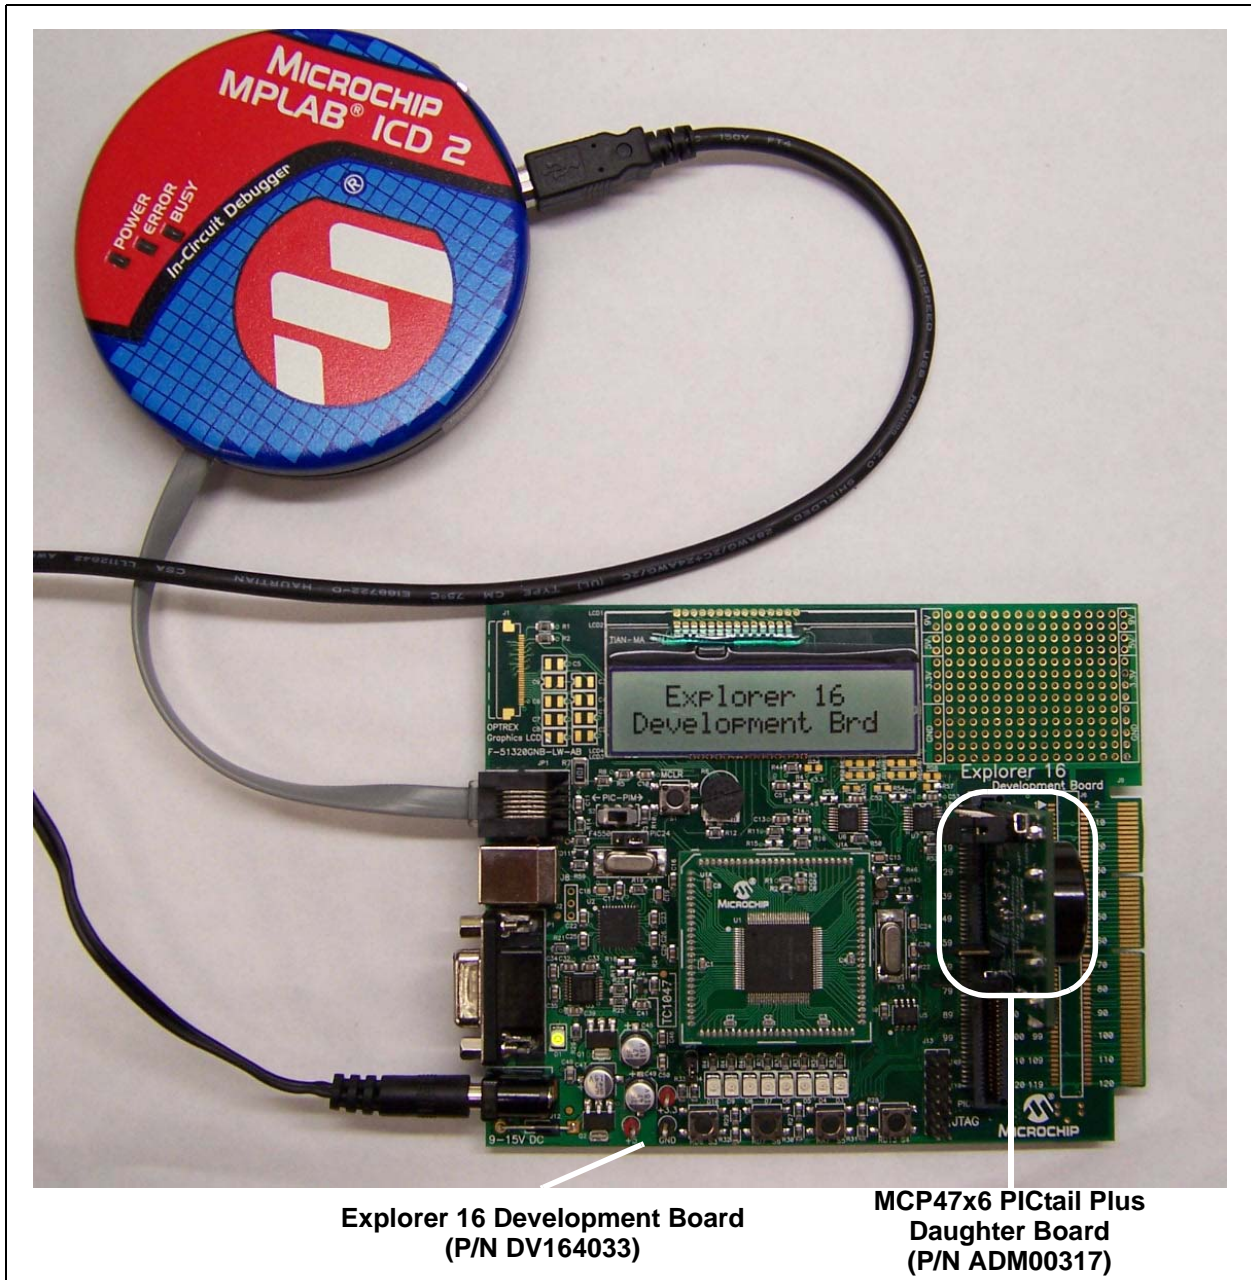
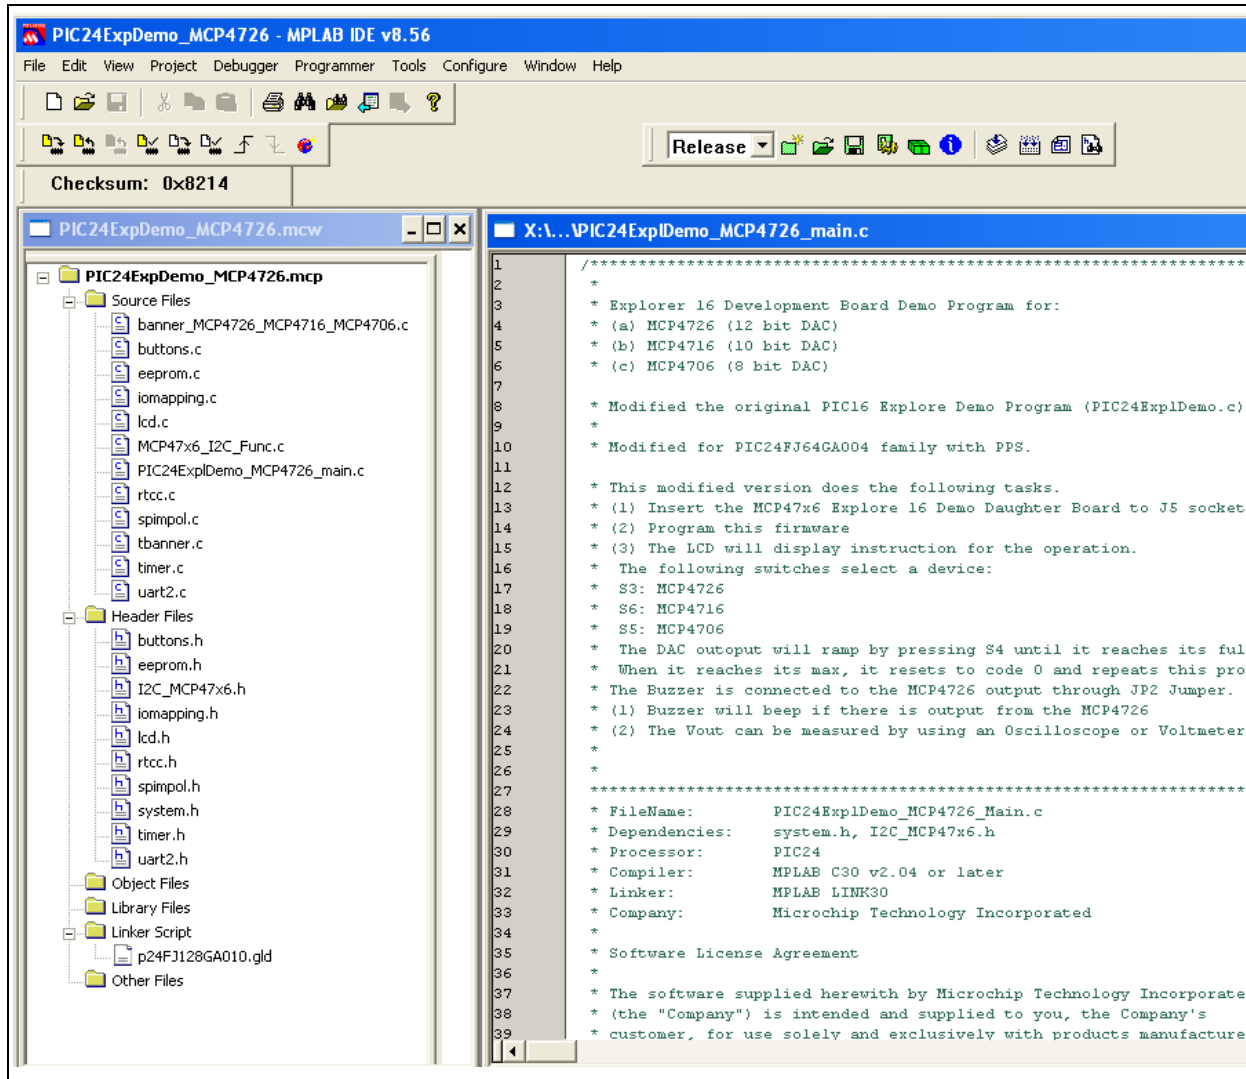

FIGURE 1-3: MPLAB ICD2 Connection to Explorer 16 Development Board with the MCP47X6 PICtail™ Plus Daughter Board for Programming.
FIGURE 1-4: MPLAB IDE Programming Environment.
- **Step 2:** Program the Explorer 16 Development Board using the firmware provided with this board. Figure 1-3 shows the connection of the MPLAB ICD2 with the Explorer 16 Development Board for programming.
The source codes are compiled by using Microchip's C30 Compiler and the hex code is programmed to the MCU using the MPLAB ICD 2. Figure 1-3 shows the connection between the MPLAB ICD 2 and the Explorer 16 Development Board. Figure 1-4 shows the MPLAB IDE programming environment.